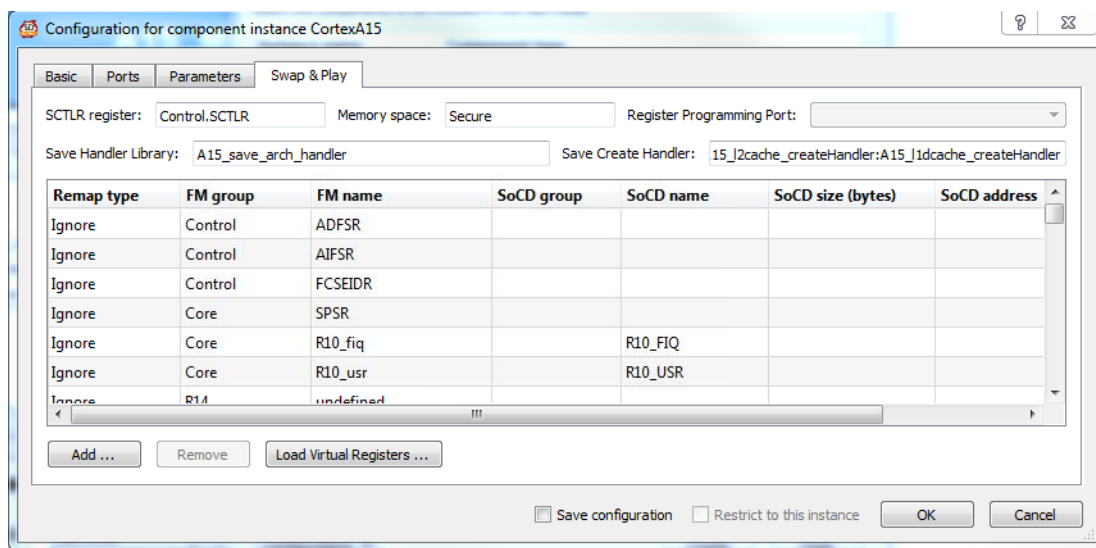
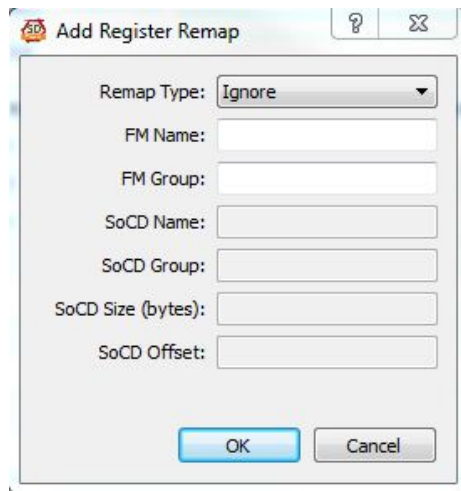

Figure 4-11 Fast Models Component Configuration dialog: Swap & Play tab
Figure 4-12 Add Register Remap dialog
Figure 4-11 shows the Swap & Play tab on the Fast Models Component Configuration dialog:
1. On the Swap & Play tab of the Fast Models Component Configuration dialog (Figure 4-11), click **Add Register Remap**. The Register Remap dialog opens (Figure 4-12).
1. On the Swap & Play tab of the Fast Models Component Configuration dialog (see Figure 4-11), click **Load Virtual Registers**. A Browse dialog launches.